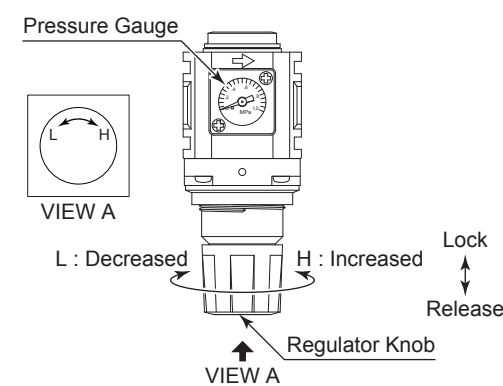

Fig. 14
- Fill Oil Reservoir through the Oil Filler Cap with recommended NAKANISHI Lubricating Oil (K - 211 : Air Line Kit's Standard Accessories) to Upper Limit of the Fig. 14. Disconnect from air supply prior to opening Oil Filler Cap. Do not over or under fill.
- Regulator (Fig. 14)